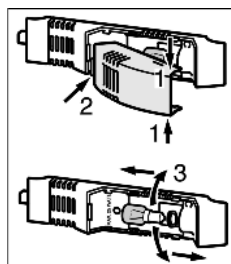

Fig. 13
- ▶ Take hold of the lamp cover at the top and bottom *Fig. 13 (1)*.
- ▶ Disengage the lamp cover at the back and detach it *Fig. 13 (2)*.
- ▶ Replace the lamp *Fig. 13 (3)*.